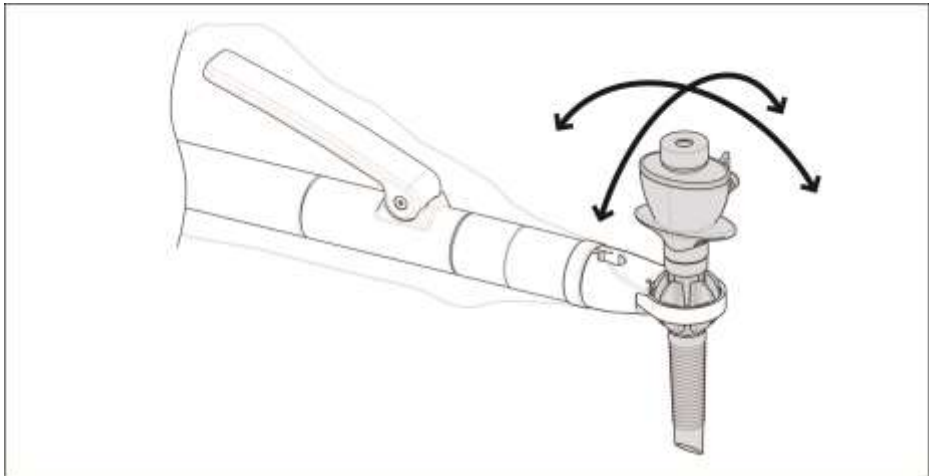

Figure 8
- Rotation around the centre of the trocar ball (see Figure 8).